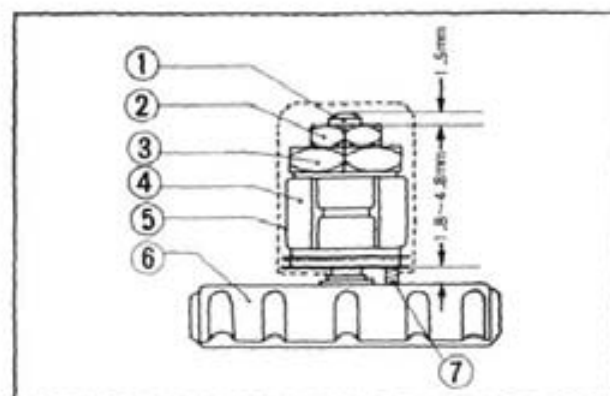

Fig. 20-15 Link component
① Rod	⑤ Rubber boot
② Lock nut	⑥ Top
③ Adjuster screw	⑦ Gauge
④ Link arm
4. Start the engine, loosen the adjuster screw lock nut and turn the adjuster screws so that the vacuum gauges connected to the carburetors are all indicating uniformly (within 3.0 cmHg) between 16 to 24 cmHg. (Fig. 20-15)
- ① Turn the throttle stop screw until there is a slight clearance between the stopper and the screw.
- ② Adjust the adjuster screw so that there is a **0.070-0.189 in. (1.8-4.8 mm)** clearance between the adjuster screw and the top. (Fig. 20-15)
- ③ Turn the throttle stop screw in the counter clockwise direction back to the original position.